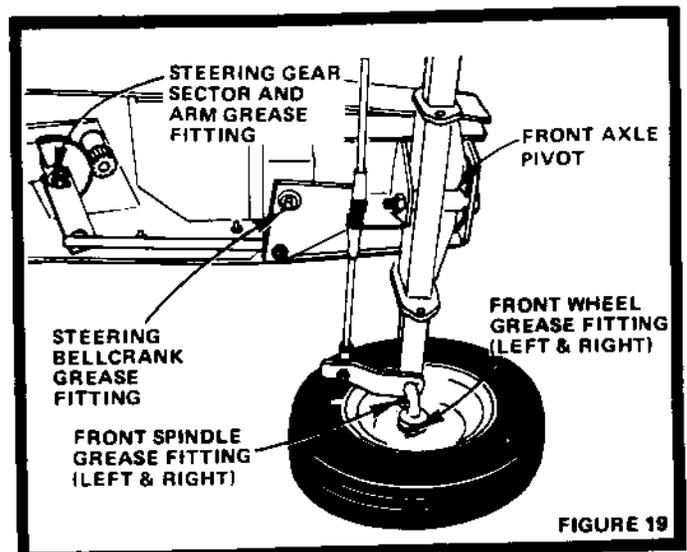

FIGURE 19
There are six Grease Fittings on your Tractor (Fig. 19). Using a Grease Gun, give each Grease Fitting two shots of Extreme Pressure Lubricating Grease Amdex No. 1 (Available at your local Sears Service Center).
- b. Front Axle Pivot (Fig. 19)